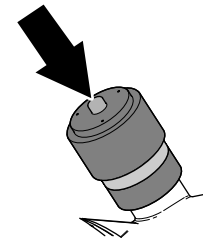

Figure 111
6. If a red band displays in the service indicator, press the reset button at the end of the indicator (Figure 111).